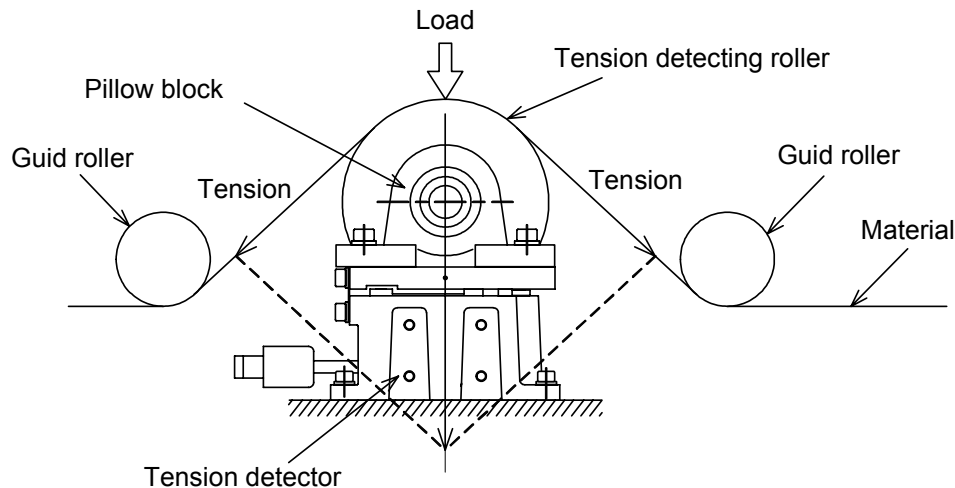

Fig. 1 An example of tension detector installation
This detector is capable of detecting either load of the compression direction and tension direction. You are free to install it to match your own machine. The tension detector is installed basically through the pillow block to the roller which, of the guide rollers as shown in Fig.1, will become the vertex, and converts the material tension into load for detection.
In this case, the load to be applied to the detector, as shown in Fig.1, will become the tension vector sum and the weight of the tension detecting roller will be added thereto.
7.1 Figure 1----- LX-005TD, LX-015TD, LX-030TD, LX-050TD